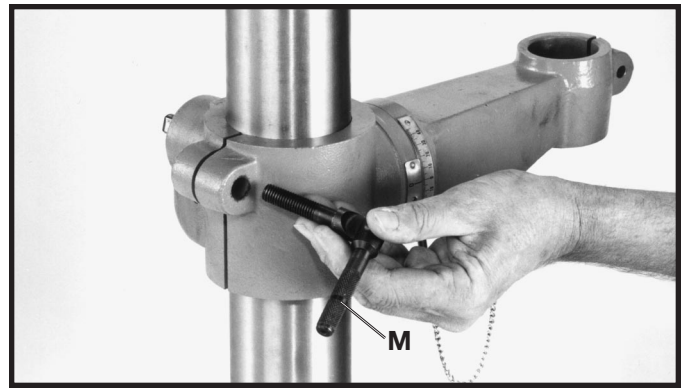

Fig. 11
7. Thread clamp handle (M) Fig. 11, into hole in rear of table bracket, as shown.